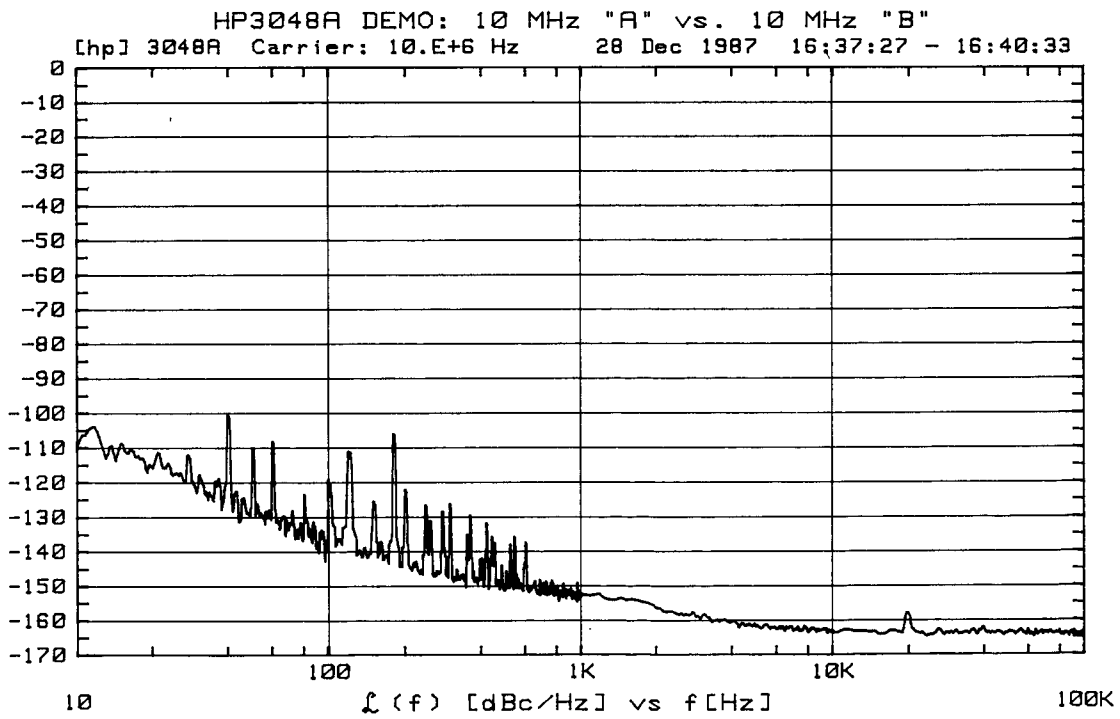

Figure 2. Typical Noise Plot for the System Quick Check
5. Press the **Proceed** softkey to run the test. The measurement should proceed without error messages, and the measured noise results should be within 10 dB of that in Figure 2. (The plot in Figure 2 is typical for a System without an RF spectrum analyzer. The measurement takes about 10 minutes depending on the controller and the presence of the RF spectrum analyzer.)